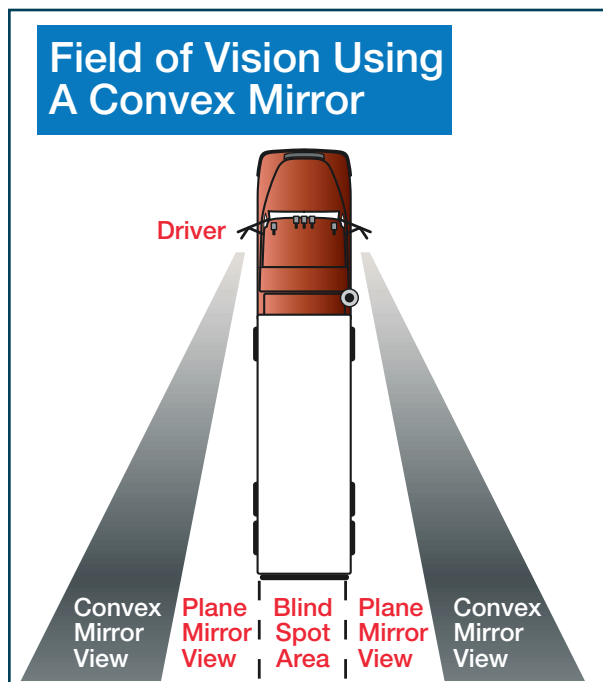

Figure 2.7
- Many large vehicles have curved (convex, “fisheye,” “spot,” “bugeye”) mirrors that show a wider area than flat mirrors. This is often helpful. But everything appears smaller in a convex mirror than it would if you were looking at it directly. Things also seem farther away than they really are. It’s important to realize this and to allow for it. Figure 2.7 shows the field of vision using a convex mirror.